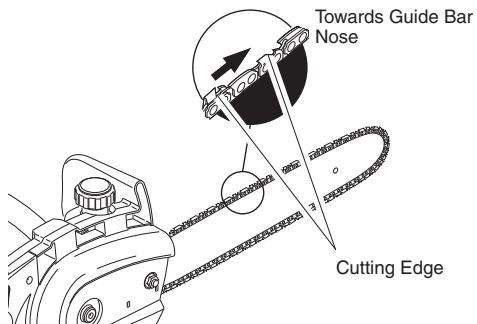

Figure 6 - Saw Chain Direction
6. Place chain around drive sprocket, along top groove of guide bar, and around guide bar nose. **Note:** Make sure cutting edges of chain are facing in right direction. Position chain so cutting edges are on top of guide bar face guide bar nose (see Figure 6 and indicator on side cover of saw).